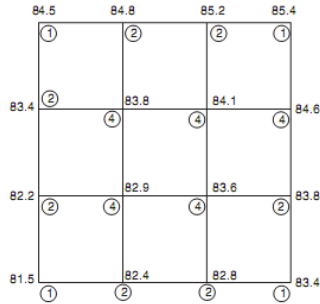

Fig. 18.14
■ **Example 18.8:** A 60 m × 60 m plot is to be excavated to a formation level of 80.0 m. The present levels at 20 m × 20 m grid are as shown in Fig. 18.14. Calculate the volume of earth work.